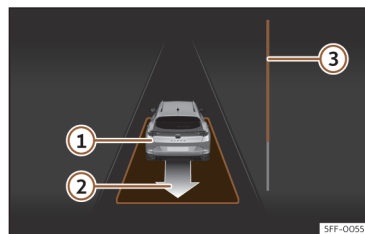

Fig. 154 On the instrument panel display: driving off from perpendicular parking.
- Reverse until the continuous ParkPilot signal sounds; **OR:** reverse until the instrument panel display shows the forward indication. The progress bar >>> **Fig. 154**  indicates the distance to cover.